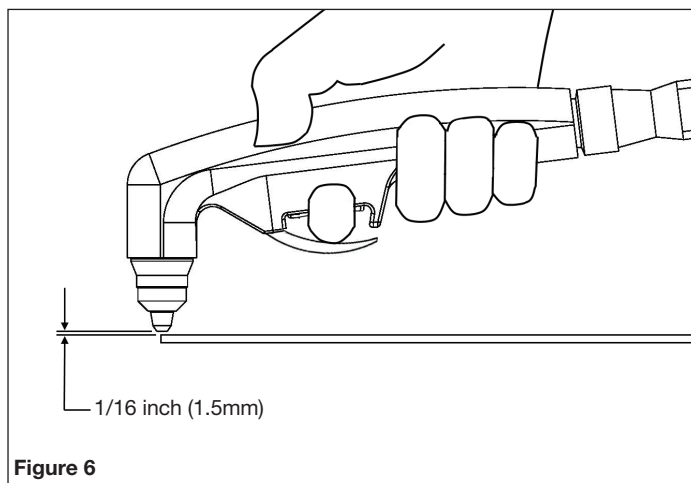

Figure 6
1. Position the torch tip 1/16 inch (1.6 mm) above the workpiece at the start of the intended cutting path. The tip should be perpendicular to the surface of the metal. See Figure 6.